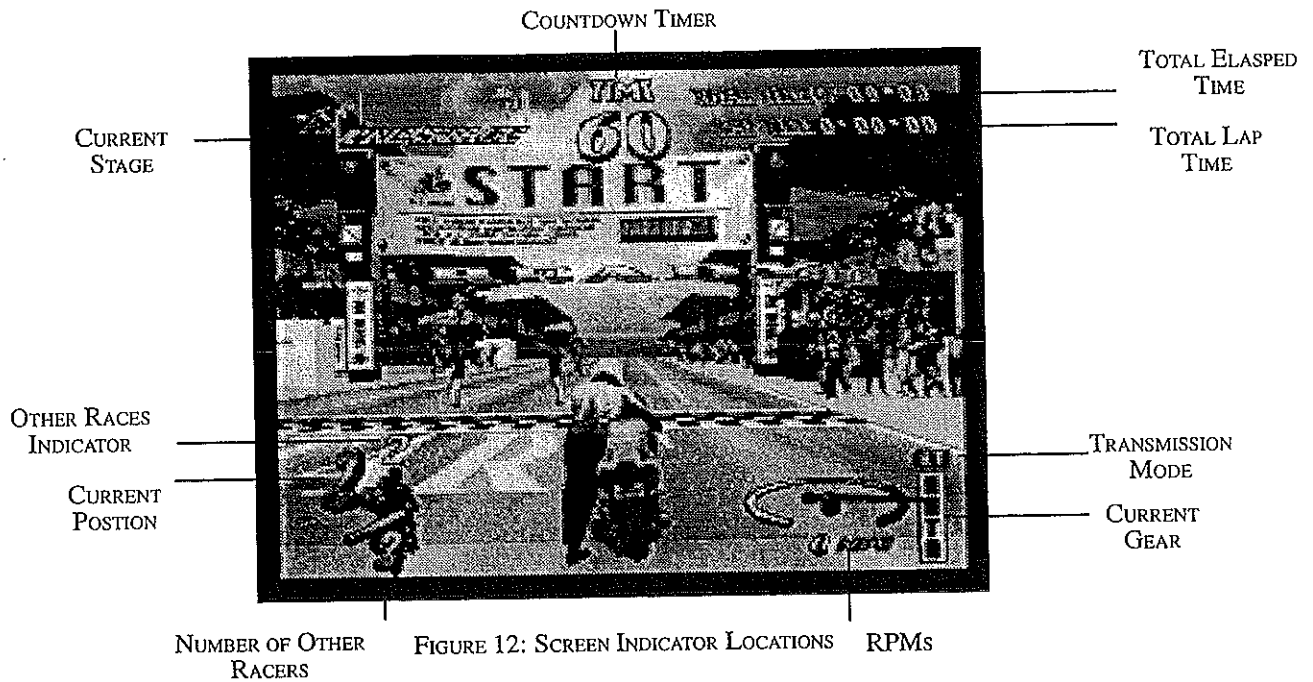

FIGURE 12: SCREEN INDICATOR LOCATIONS
4. Choose the desired shift type, either automatic (AT) or manual (MT) and twist the THROTTLE to make the selection effective (as above). Although bike operation with manual transmission is more difficult than with automatic transmission, manual shifting provides better acceleration and a higher maximum speed than automatic shifting.
5. Now, you are ready to start the game. The screen in front of you shows your road position, and has various displays and indicators. (see Figure 12)